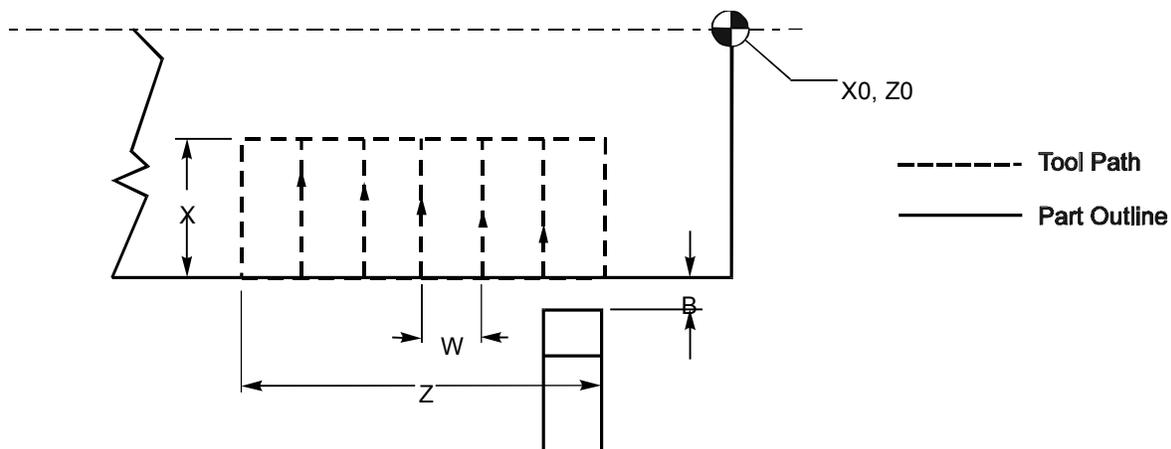

Figure 5-10, G81 Address Words
Refer to **Figure 5-10**. G81 creates a groove along the longitudinal (Z) axis. Use a groove-cutting tool for this cycle. The cycle has built-in compensation for tool width. Position the tool appropriately (with the tool width taken into consideration) before the canned cycle begins.